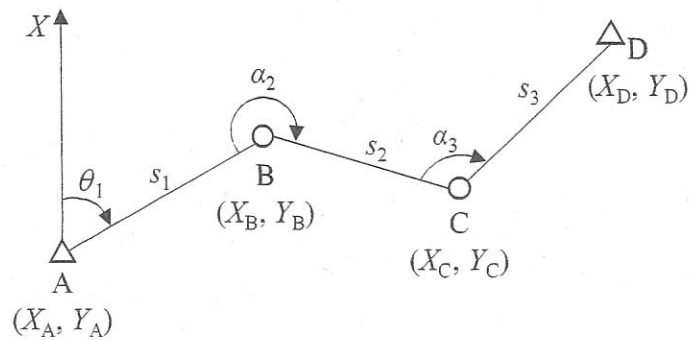

Figure1 Traverse network
- (1) Figure 1 shows a traverse network. The coordinates (X_A, Y_A) and (X_D, Y_D) are coordinates of known points A and D, respectively. We will estimate the most probable values of coordinates (X_B, Y_B) and (X_C, Y_C) of unknown points B and C. The observed angle of grid bearing at point A is θ_1 . The observed angles at points B and C are α_2 and α_3 , respectively. The observed